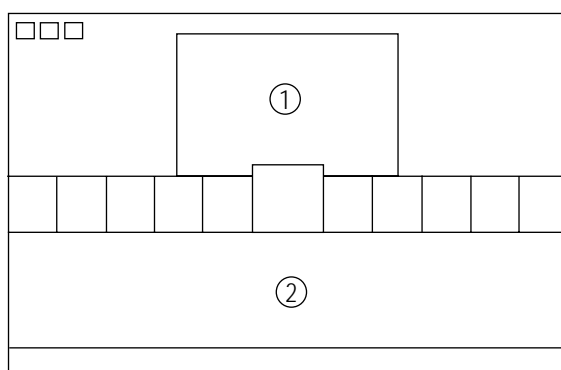

Fig. 4-4
1. Set SBT to 2.0 fL in the Factory Service Mode with using CA100. See Fig. 4-4 ②.
1. Set SCT to 50.0 fL in the Factory Service Mode with using CA100. See Fig. 4-4 ①.